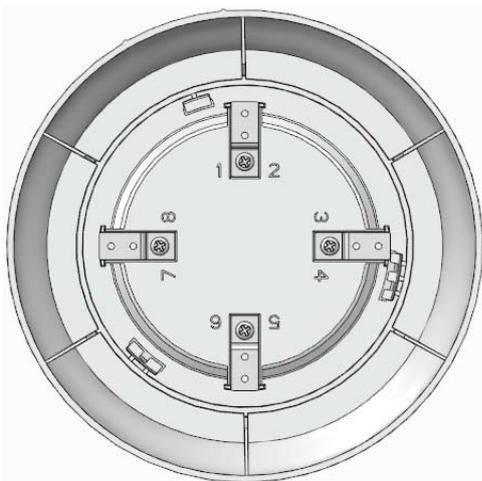

Fig.2 Bottom structure of the Sounder Base
2. The bottom structure of the Addressable/Conventional Sounder Base as shown in Figure 2. Install the Addressable/Conventional Sounder Base on the TX7980-type base with the installation terminals of the two devices are one-to-one. The device number or other device parameters can be verified with a handheld programmer if desired.